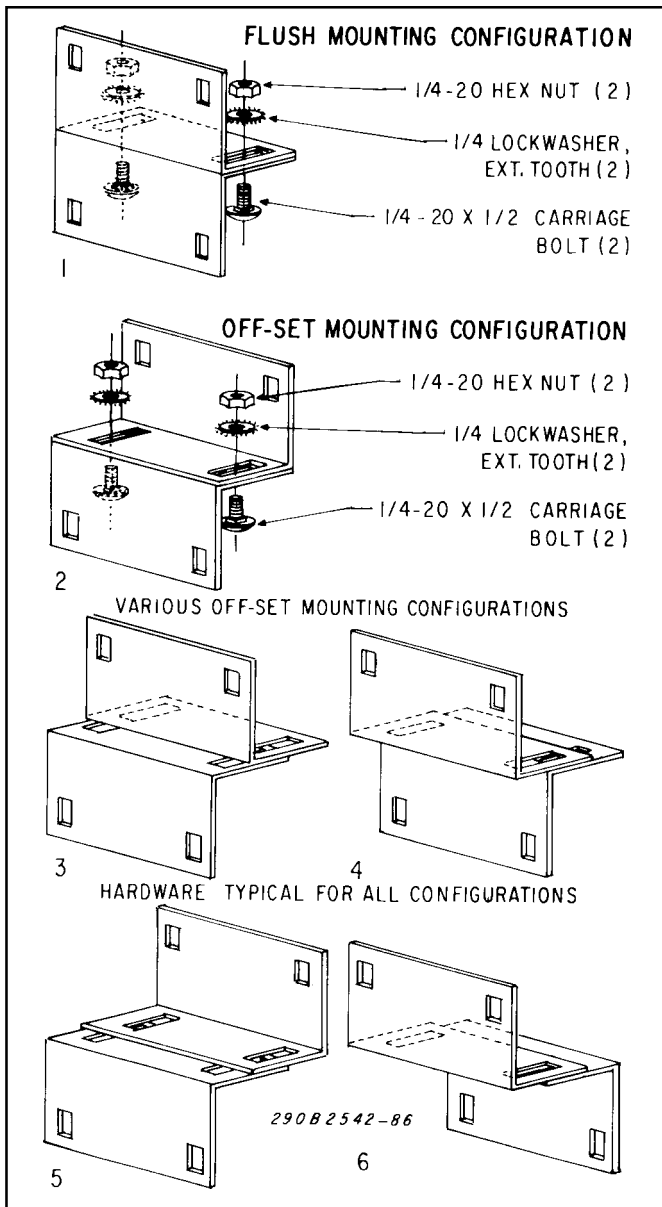

Figure 1.
a. See figure 1. Assemble the brackets using two carriage bolts, lockwashers and nuts for each pair of brackets.
- b. See figure 1. Assemble the brackets in the desired configuration using two carriage bolts, lockwashers and nuts for each pair of brackets.